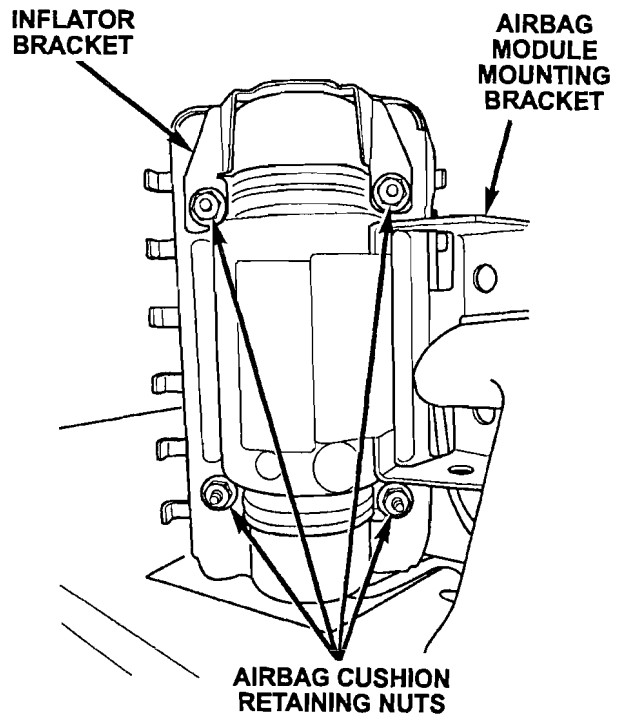

Figure 7
11. Remove and save the four airbag cushion retaining nuts (Figure 7).
12. Remove the inflator bracket (Figure 7).
15. Place the airbag inflator bracket into position (Figure 7).